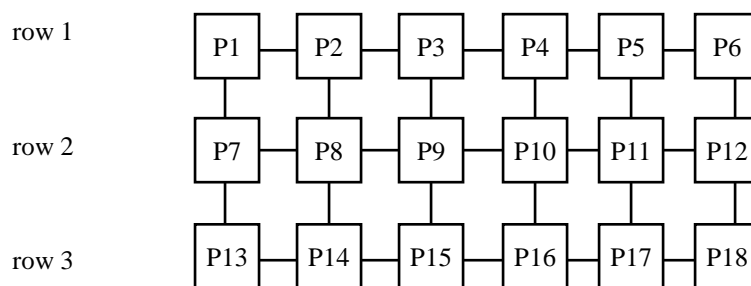

Figure 1 Cluster Topology for Question 1
This question relates to the grid network shown in Figure 1 below, which comprises 18 of the same type of nodes, where each node only connects to its nearest neighbors via a 1Gbps link. This is essentially a non-uniform configuration because it is not a square and some of the nodes (e.g. corner nodes) have less links than others. Answer the following...
- Discuss, and calculate a bandwidth value, for the bisection bandwidth of the network shown in Figure 1. Assume each link has bandwidth of 1Gbps. Explain (using a rough diagram if needed, or a listing links to show the) how you decided the 'bisection' would be done in this case. [5 marks]. (*Hint*: Appendix A has formulas that might, or might not, be useful.)